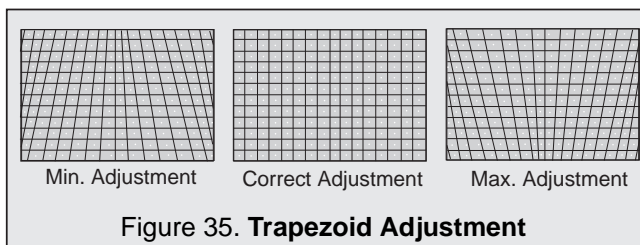

Figure 35. Trapezoid Adjustment
1. Enter Serviceman Mode, select "TRAP" and Adjust DATA so that lines at right and left are vertical like a solid line (See Fig. 35)